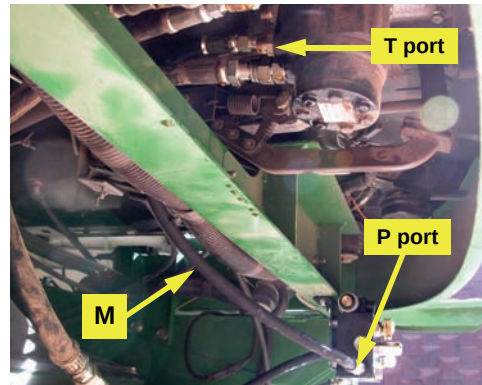

Figure 4a: Installed pressure hose - steering block P port to orbital T port
- a. Install the pressure hose **M** between the fitting in the **P** port of the hydraulic steering block and the tank port of the steering orbital (from which you disconnected the tank hose in step 3) (Figure 4a).